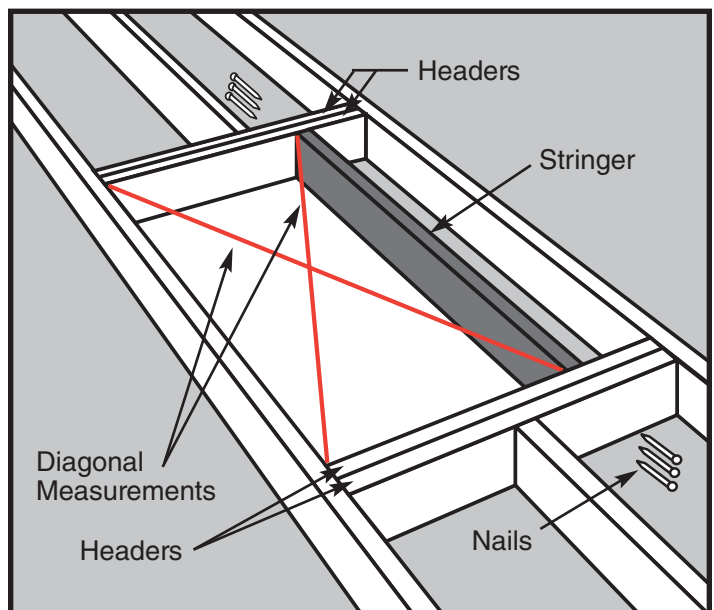

Figure 18
- STEP 4.** Position the stringer(s) along the unframed side(s) of your location (See Figure 18). Check that the inside dimensions of the frame are 22-1/2" x 54" (AH2210) or 25" x 54" (AH2510).
- STEP 5.** To attach the stringer(s) to the headers, use nails that are long enough to go through both headers and into the stringer at least one inch. Square the stringer(s) to the headers at one end and drive (3) 16d nails through the headers and into the stringer. Check for squareness, then nail the other end. Check the rough opening for squareness by measuring across the diagonals. **The two measurements should be within 1/8" to be considered square** (See Figure 18).